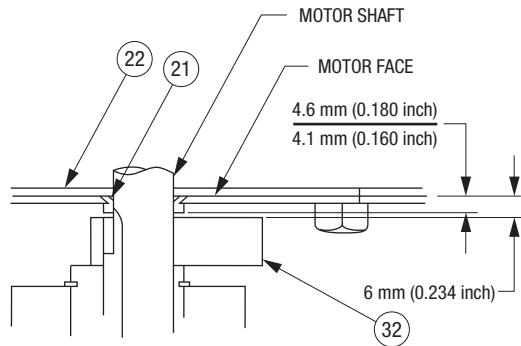

Figure A1 (8)
The counterweight needs adjustment.	See Motor Face Seal, Figure A1, for the correct setting of the counterweight.
When reassembling the motor, refer to Figure A1 for the face seal seating dimension. Also, refer to this figure for setting the vertical position of counterweight (32).